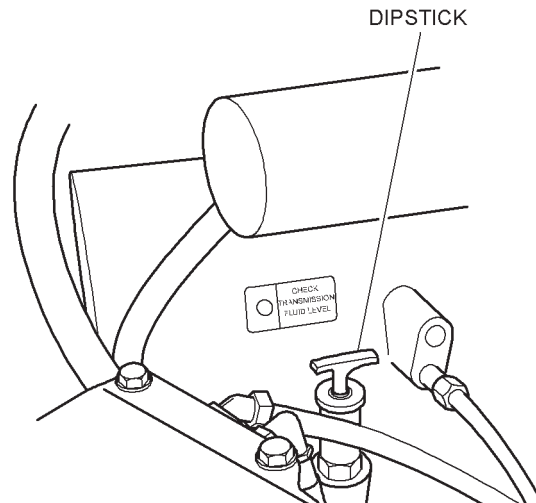

Figure 7-3. Location of Dip Stick
5. Remove dipstick (see Figure 7-3). Oil must be in the crosshatched area.
1. Be sure dipstick, Figure 7-3, is fully seated.